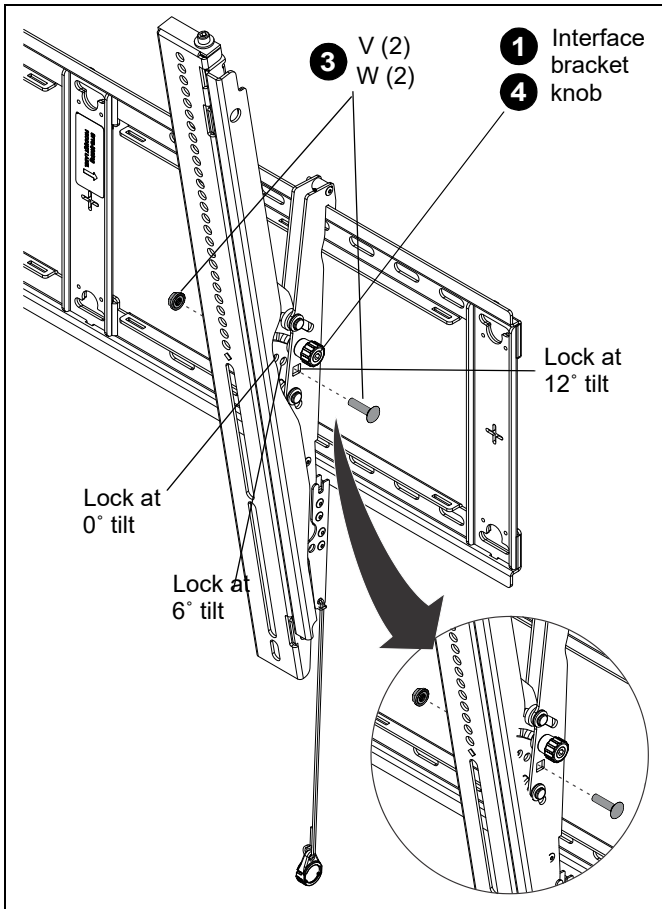

Figure 16
2. Adjust tilt as required. (See Figure 16)
3. The tilt may be locked at 0°, 6° or 12° using one 1/4"-20 x 1" bolt (W) and one 1/4"-20 nut (V) per interface bracket. (See Figure 16)